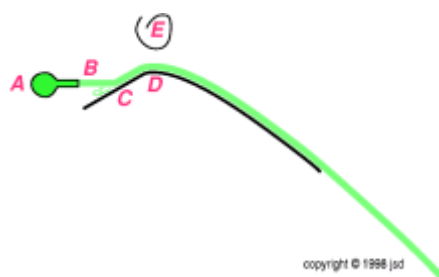

Figure 18.2: Tissue Paper; Coanda Effect
On the other hand, if the jet actually hits the paper as shown at point C in figure 18.2, the downstream part of the paper will rise up. This is because the air follows the curved surface; as it does so, it creates enough low pressure to lift the weight of the paper.
2. The Coanda-like notion of airflow following a curved surface cannot possibly explain why there is upwash in front of the wing. In figure 18.2 there must be a stagnation point on the upper surface of the paper near point *C*. This is completely different from the situation near a normal wing, where the stagnation line must be somewhere below the leading edge of the wing. Upwash is important, since it contributes to lift while creating a *negative* amount of induced drag. A further consequence, by the way, is that these Coanda-like stories cannot possibly explain the operation of stall-warning devices, as discussed in section 3.5.